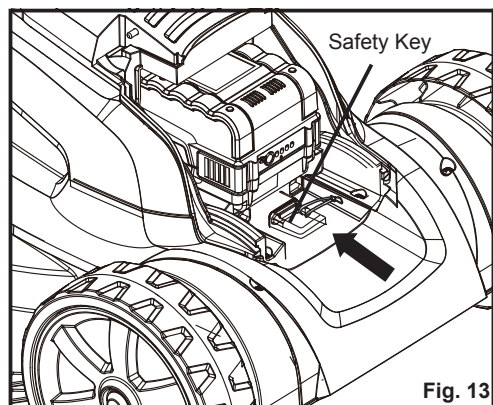

Fig. 13
1. To switch on, insert the safety key, press and hold the safety switch button and gently pull the start/stop bale switch (Fig. 13 & 14). Once started, release the safety switch button.